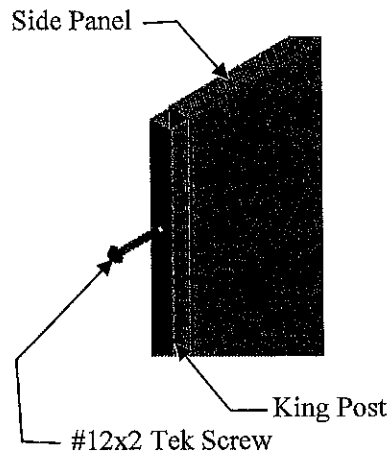

Figure 1
1. Attach a King Post to the first Side Panel on the far left using 2" Self-Drilling Tek Screws through the pre-drilled holes (**Figure 1**). The King Post should always mount to the short front end of the Side Panel.